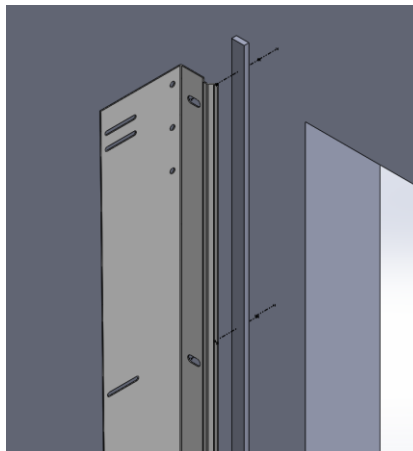

Figure 4
1. Take polyester foam strip and stick the side with PSA against mounting rail. Place foam on exterior face of the mounting rail's short leg. The foam should be compressed between the mounting rail and wall when door is installed **(See Figure 4).**